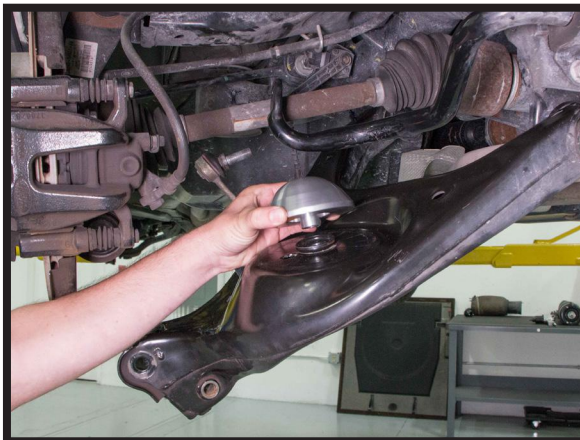

FIGURE 46
1. INSTALL THE LOWER SPRING SEAT ONTO THE LOWER CONTROL ARM AND SECURE IN PLACE USING THE SUPPLIED 5/16" -18 X 2 1/2" BOLTS AND FENDER WASHER THROUGH THE HOLE IN THE CENTER. (FIGURE 46)